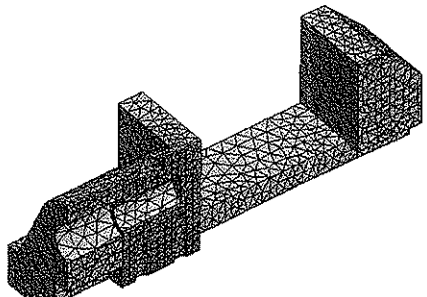

Figure 8-32 Elements displayed through the section plane and with the **Show Whole Elements** toggle button turned off
- When you create a slice plane, the cells are visible through the sectioned plane. You can turn on or off the display of the cells using the **Show Whole Elements** toggle button in the **Section Planes** window. The model after turning off the display is shown in Figure 8-32.